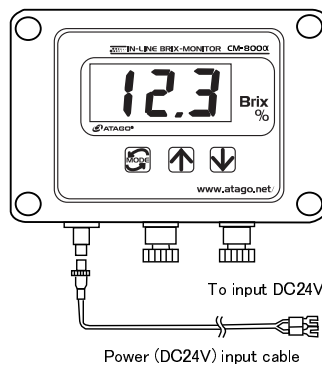

Fig.7-1
- ② Connect the power (DC24V) input cable terminal to the power supply of DC24V as illustrated in Fig.7-1.